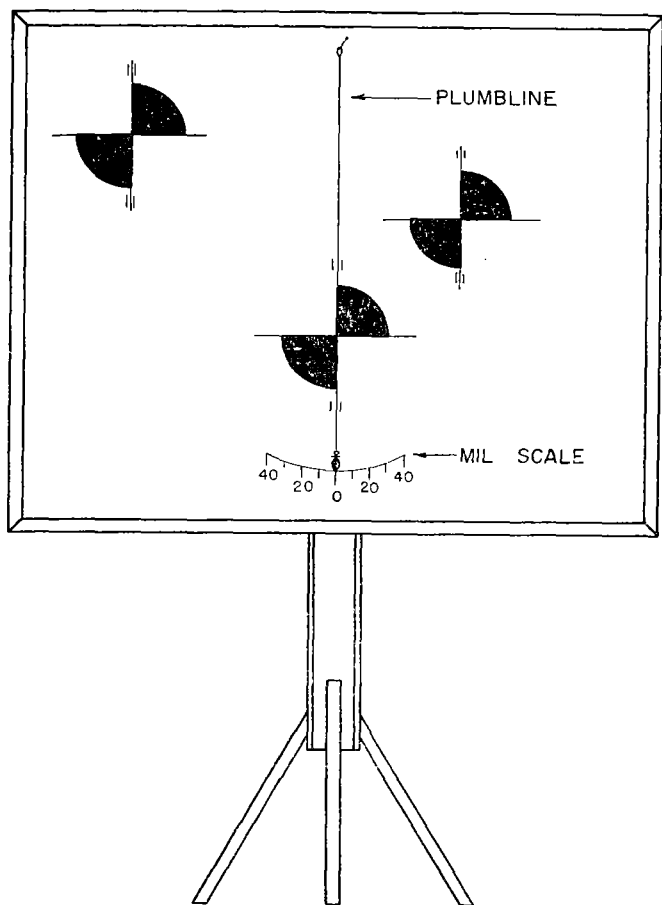

Figure 10. Testing target.
- (1) Mount the testing target on a flat piece of material and fasten it to a stand to provide stability (fig. 10).
- (2) Install a plumb line and mil scale for use in leveling or canting the target (fig. 10).
- (3) Draw vertical reference lines for use when the trunnions are not level. The testing target must be canted an equal amount and in the same direction (fig. 10).
- (4) To facilitate boresighting in darkness, bore $\frac{1}{16}$ -inch hole through the center of each aiming diagram and cover each hole with a piece of heavy cloth. A flashlight is held against the material to provide an aiming point for blackout conditions.
b. Testing Target Alinement. Without moving the tube, aline the center aiming diagram of the testing target with the line of sight through the tube (fig. 10). The testing target must be placed perpendicular to the axis of the bore. *The testing target must then be made secure.*
- (1) Set the gunner's aid counter to zero.
- (2) Adjust the azimuth and elevation knobs